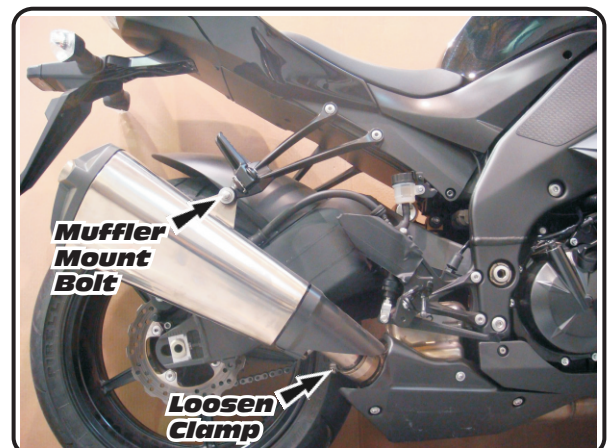

Fig. 2
- 3 Loosen the stock exhaust clamp and remove the muffler mount bolt. Remove the stock muffler (see Fig. 2 for bolt locations).